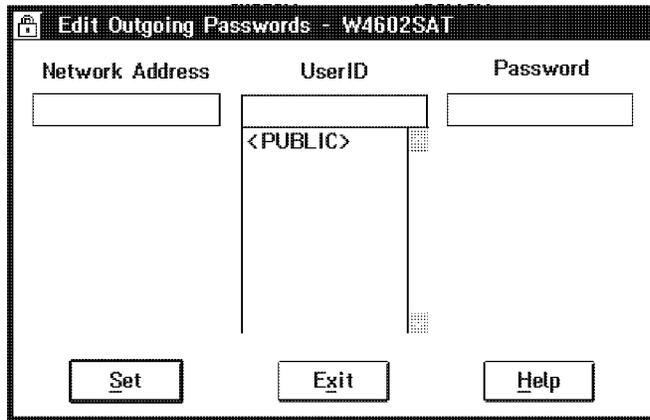

Figure 33. Outgoing User ID / Password Configuration
3. Select **Add**. This opens the Edit Outgoing Passwords window as displayed in Figure 33 on page 42.